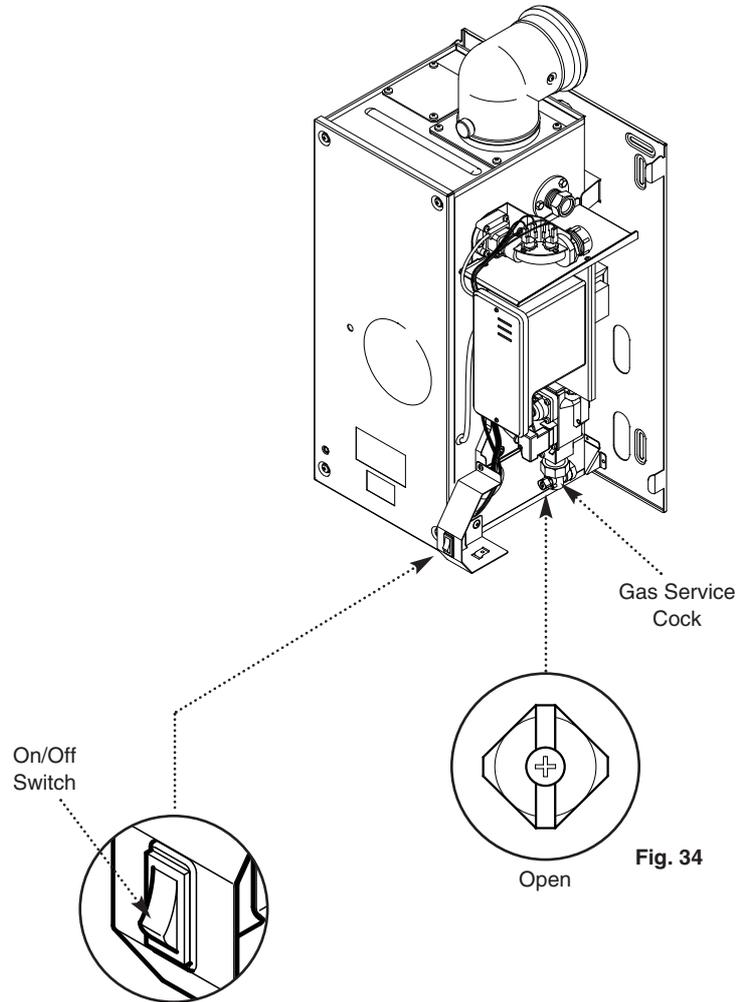

Fig. 35
6. Switch on the on/off switch (Fig. 35) and run the system and check the boiler for correct operation.